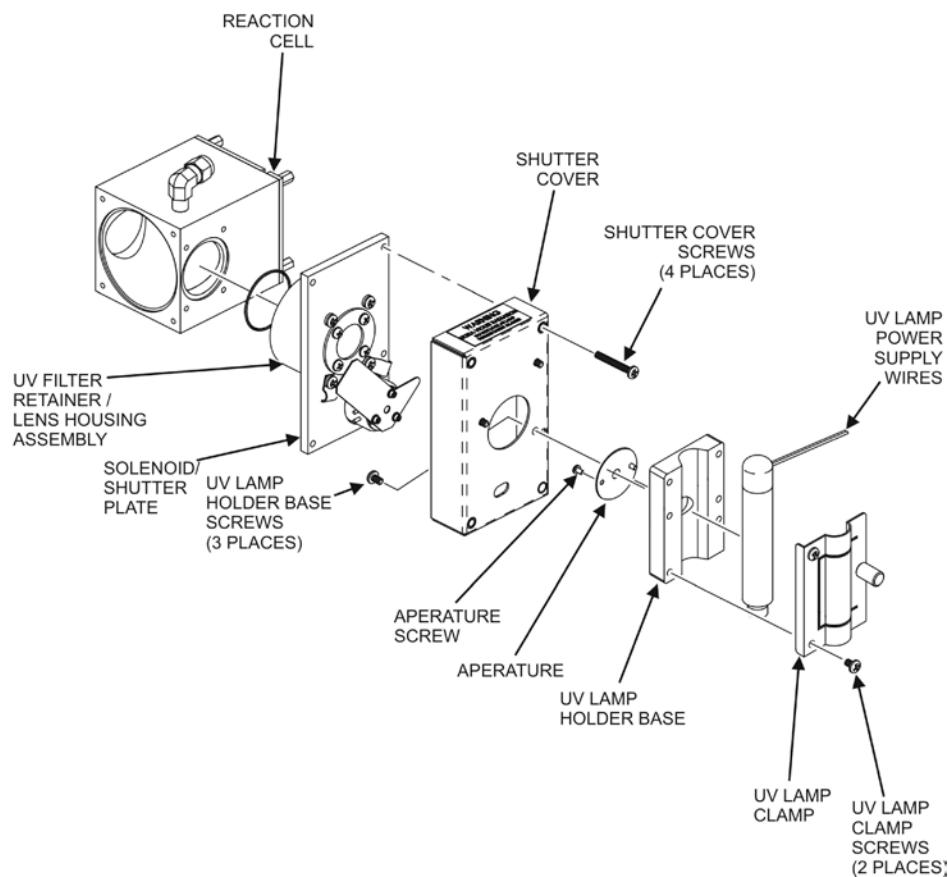

Figure 9-4. Shutter Assembly
28. Loosen, but do not remove the two UV lamp bracket screws and the large brass thumbscrew located on the shutter housing (refer to Figure 9-4) so that the lamp can be moved.
DO NOT grasp the UV lamp by its cap when changing its position (refer to Figure 9-4). Always grasp the main body of the lamp.